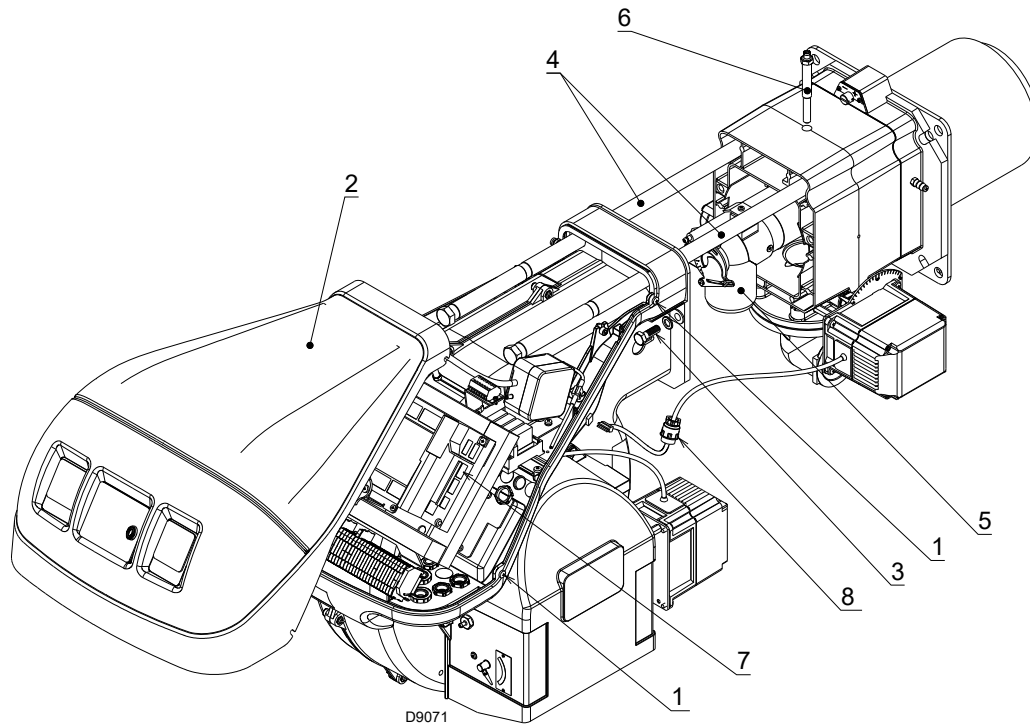

Fig. 35
- Loosen the 4 screws 1)(Fig. 35) and remove the cover 2);
- connect the plug of the servomotor 7)(Fig. 35) and tighten the grommet 8);